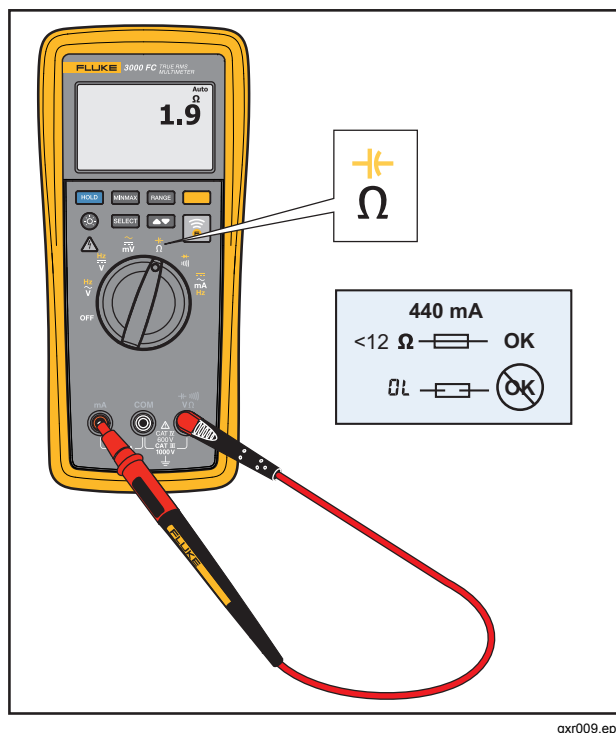

Figure 9. Fuse Test
2. Connect a test lead to the $\frac{*}{V_{\Omega}}$ jack as shown in Figure 9.